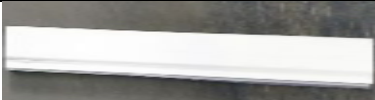

Figure 3 End posts with top and bottom rail
12. Repeat steps 2,3,5 and 6 for the other end post, then repeat step 11, ensuring that the post is snug when attaching the screw. The project should now look like Figure 3. Screw in the bottom rail from either the exterior or the interior of the post.